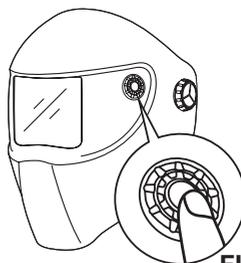

FIG. 2
- Grinding: There are two ways to activate GRIND mode. You can either long-press the TEST/GRIND button for 2 seconds or long-press the button (Fig. 2) for 2 seconds to switch the filter to GRIND mode. The LED (Fig. 1-5) will flash green every 3 seconds, indicating that you are now in GRIND mode.